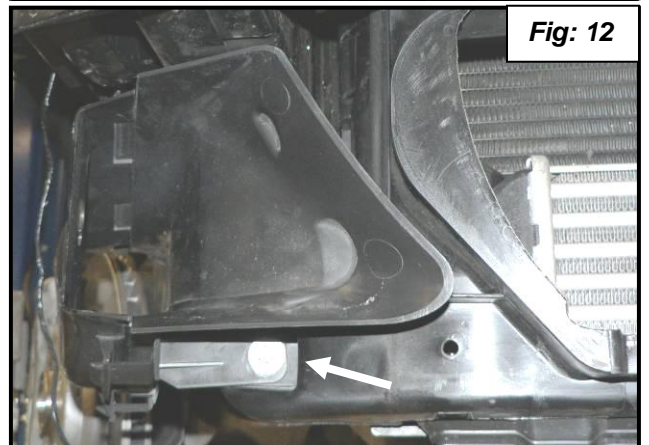

Fig: 12
17. Remove the brake duct by removing the mounting screw. See figure 12.